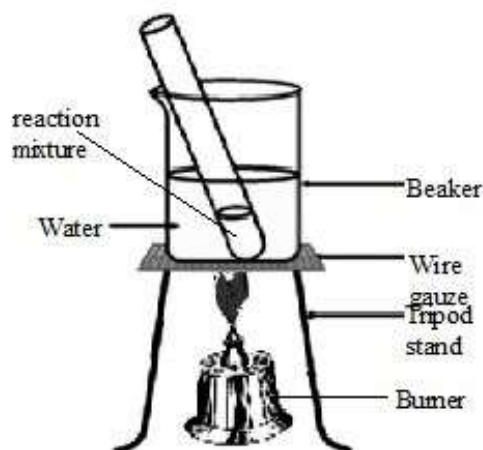

Fig. 6.11 Formation of ester
- ☞ Heat the test tube on a water bath as shown in the Fig. 6.11. for about 5 minutes